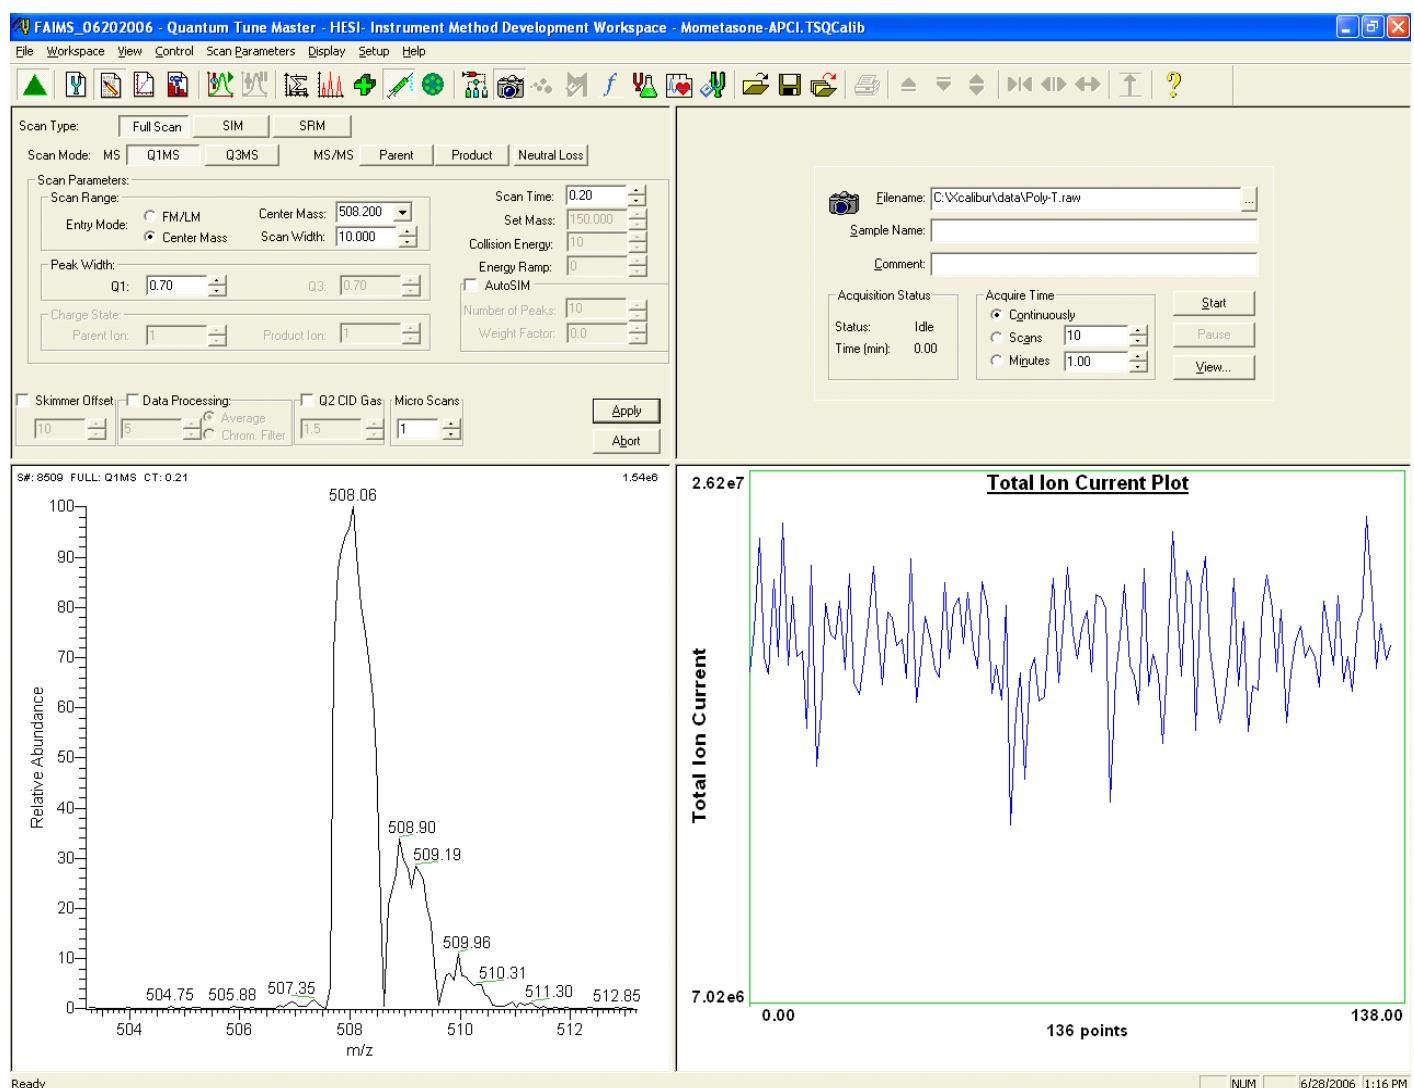

Figure 33. Instrument Method Development workspace, showing stable ion beam
- Click on the Creep toolbar button to invoke the creep Y-axis normalization mode. This enables you to observe changes in the intensities of the ions. The profile mass spectrum at m/z 508 is shown in Figure 33.